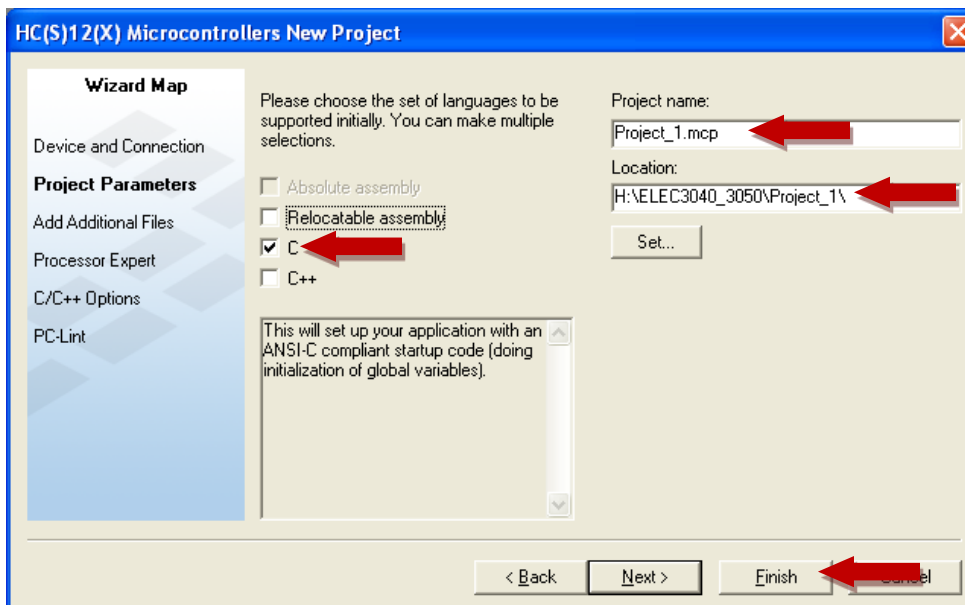

Figure 6. Project Parameters Form
- *Project Parameters Form* (Figure 6) – Select the programming language (C), the project name (ex. Lab2.mcp), and the location for the files (your network drive name).